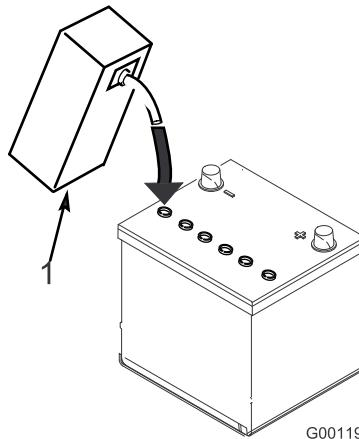

Figure 6
- Carefully fill each cell with electrolyte until the plates are covered with about 1/4 inch (6 mm) of fluid (Figure 6).
- Allow approximately 20 to 30 minutes for the electrolyte to soak into the plates. Fill as necessary to bring the electrolyte to within about 1/4 inch (6 mm) of the bottom of the fill well (Figure 6).